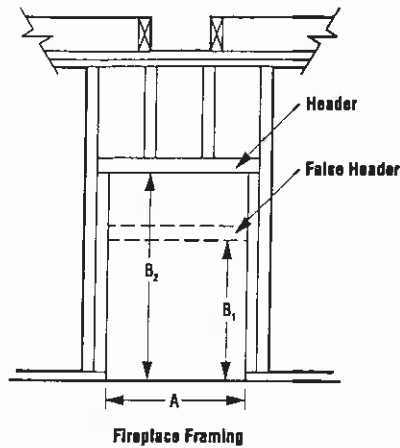

Figure 12
Step 3. Refer to fireplace drawings and specifications on pages 6 and 7 for framing dimensions and details. Frame appliance enclosure as illustrated in Figures 12 through 15 on page 7.